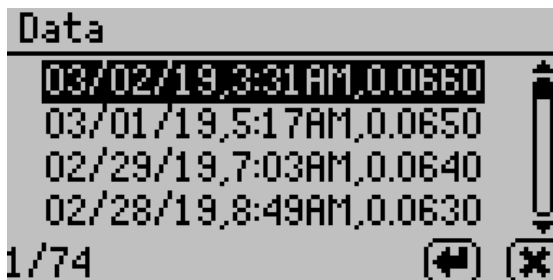

Figure 44 View data summary
- **View.** Select to view stored measurements with the most recent measurements at the top of the table (Figure 44). Use **UP** and **DOWN** to move through the stored data. Use **LEFT** and **RIGHT** to page quickly through the data.